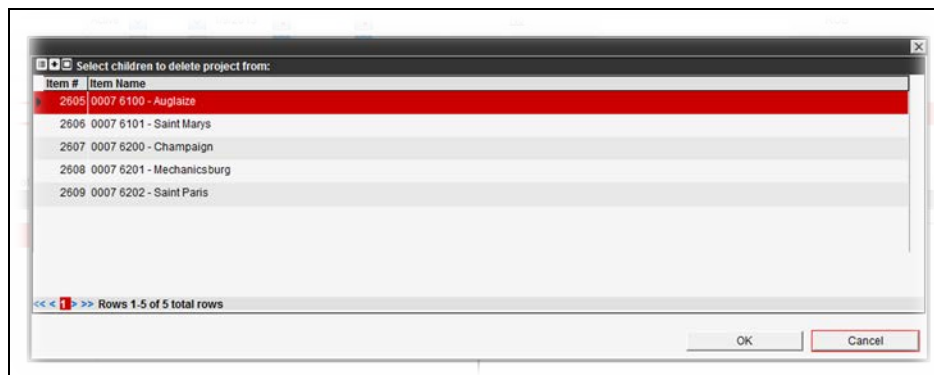

Figure 2-12. Project Delete Propagation Selection
- b. If one or more Division/Cost Centers are available for selection, the list of candidates appears in a dialog box (Figure 2-12).
- c. Select any Division/Cost Center(s) as needed for deletion (Figure 2-12), by holding the CTRL or SHIFT key while making cursor selections if selecting multiple items. Selections appear highlighted.